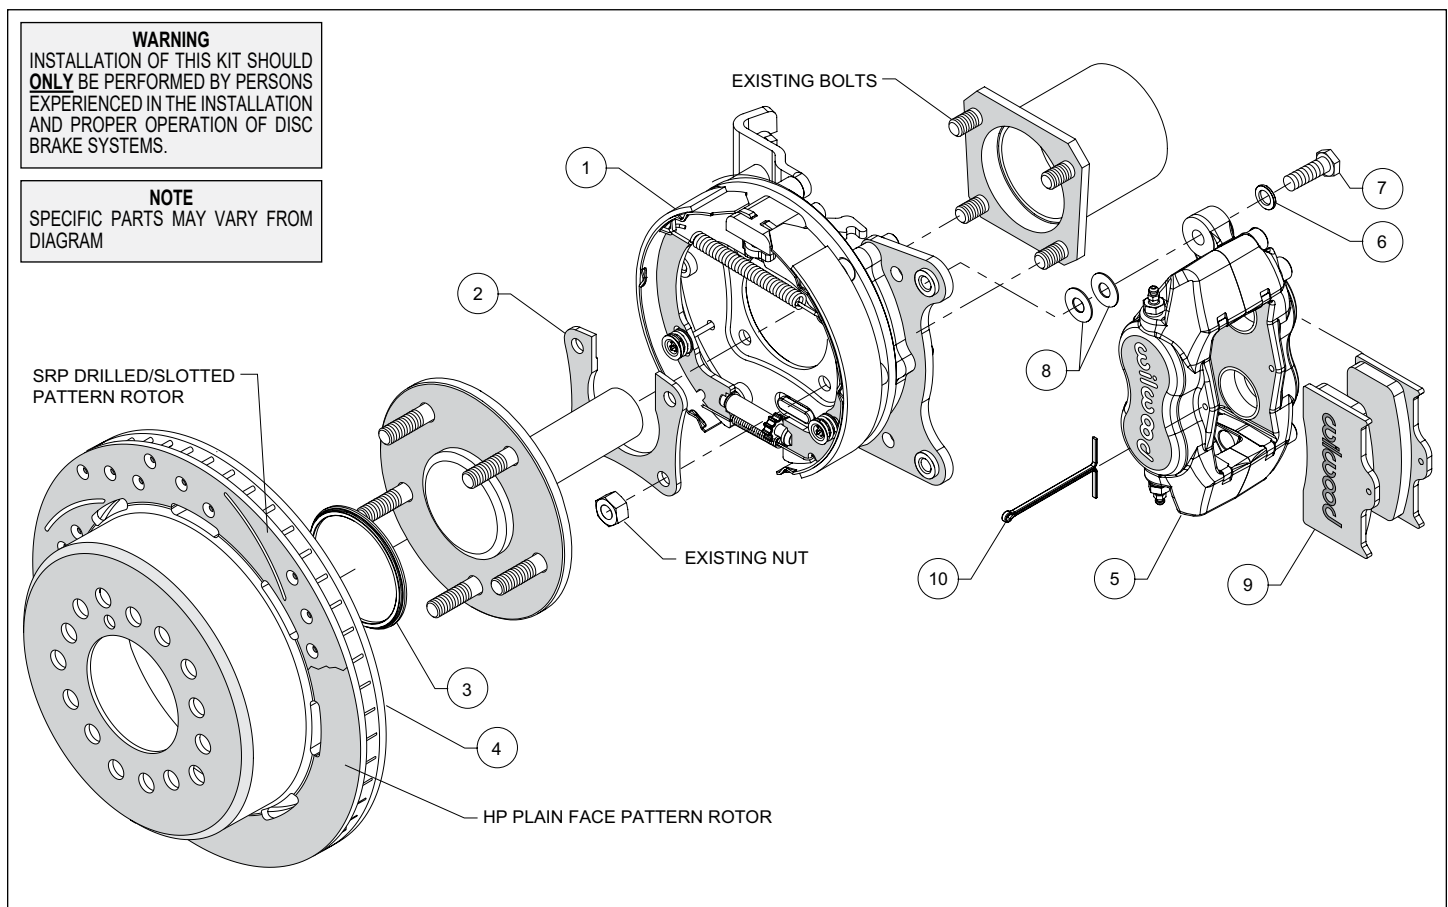
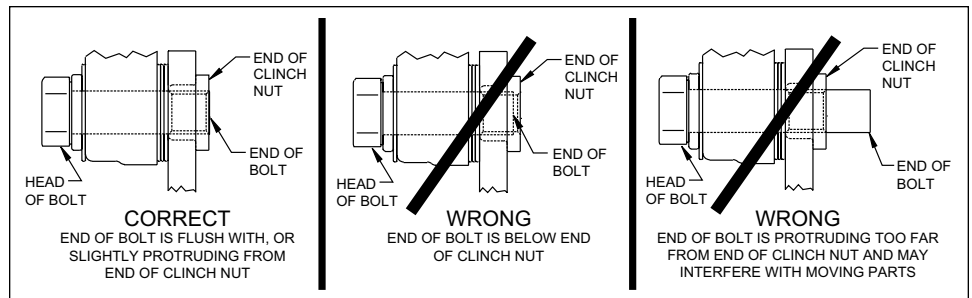

Figure 1. Typical Installation Configuration
Figure 5. Clinch Nut Engagement Diagram
NOTE: Numbers in parenthesis refer to the parts list and Figure 1 on the preceding pages.
CAUTION: All mounting bolts must fully engage clinch nuts. Be sure to check that all bolts are either flush or protruding through flanged side of clinch nut after shimming, Figure 5.
•Orient the bracket assembly (1) as shown in Figure 1 and Photo 1 and slide it onto the axle. Insert the axle and bracket into the axle housing. Ensure that the bracket assembly backing plate fits flush against the axle housing flange.
•Install the bearing retainer (2) with the opening pointing upward and the lip facing inward (toward the bearing), as shown in Figures 1 and 4, and Photo 2. Secure retainer and bracket assembly to the axle housing flange using the Original Equipment Manufacturer (OEM) bolts and nuts, Figure 1. Apply red *Loctite*® 271 to the OEM bolt threads and torque to OEM specifications.
- Slide the rotor registration adapter (3) onto the axle register on the axle flange with the smaller O.D. facing toward the rotor/hat (4), Photo 3. Align the correct hole pattern in the rotor/hat with the stud pattern on the axle flange and slide into place, Figure 1 and Photo 4. **NOTE:** The rotor/hat must fit flush against the axle flange or excessive rotor run out may result. Install three lug nuts (finger tight) to keep the rotor/hat assembly in place while continuing with the installation. **NOTE:** Some OEM and after market axles come with stud sizes larger than 0.50" diameter. Verify stud size and have a qualified machine shop drill the bolt circle of the hat/rotor to the correct stud size, if necessary.
- NOTE:** Please reference the caution statement at the beginning of the assembly instructions. Mount the caliper (5) onto the caliper mounting bracket (1) using bolts (7) and washers (6), as shown in Figure 1. Initially place two .035" thick shims (8) on each bolt between the caliper and the bracket, Photo 5. Temporarily tighten the mounting bolts and view the rotor (4) through the top opening of the caliper. The rotor should be centered in the caliper, Photo 6. If not, adjust by adding or subtracting shims between the bracket and the caliper. Always use the same amount of shims on each of the two mounting bolts. **NOTE:** The end of each bolt must be flush with or slightly protruding from the head of the clinch nut, as shown in Figure 5. If necessary place spare shims between washer (6) and caliper mounting ear to achieve the proper clinch nut engagement. Once the caliper alignment and clinch nut engagement are correct, remove the bolts one at a time, apply red *Loctite*® 271 to bolt threads, and torque to 40 ft-lb.